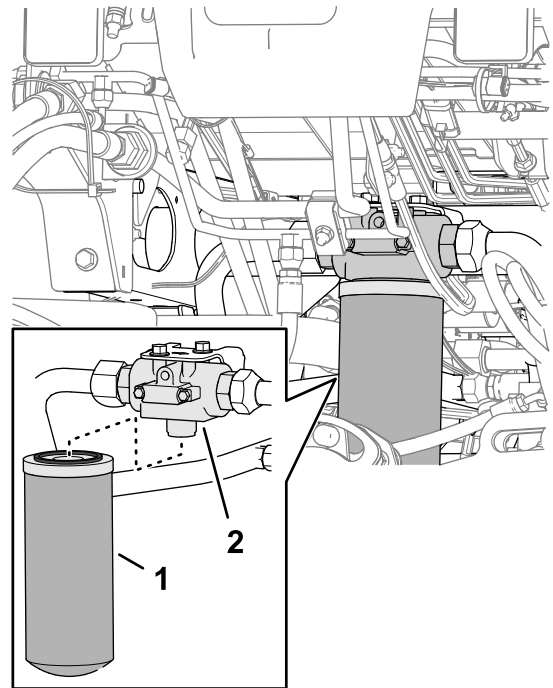

Figure 145
2. At the front of the machine, align a drain pan under the return filter (Figure 145).